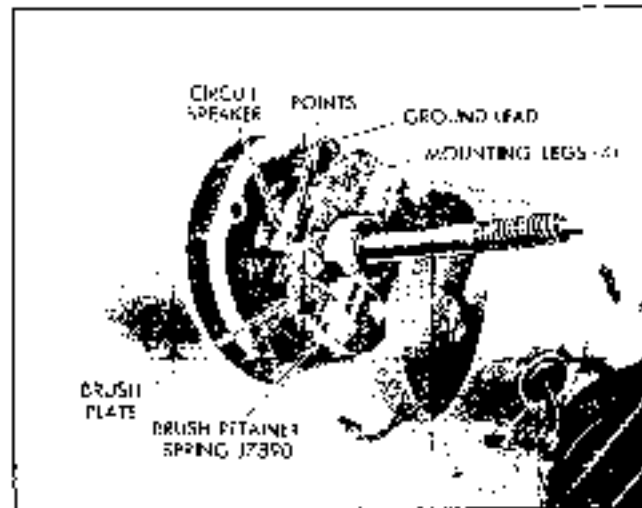

Fig. 12-33 Retrive Holding Brush in Place—Parriac
5. Unholder black ground lead from circuit breaker terminal, (Fig. 12-33).
7. Install U shaped brush retainer clip J 7890 over brush holder that has brush lead attached to circuit breaker (Fig. 12-33).